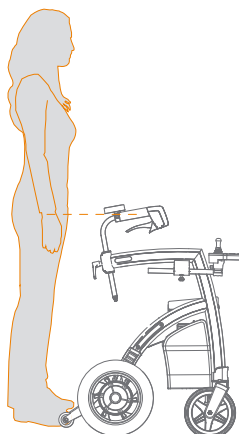

Figure 21: Determine the correct height.
- To determine the correct height, stand between the Rollz Motion Electric handles with your arms hanging near the body. The handles should be at the same height as your wrists (**Figure 21**).